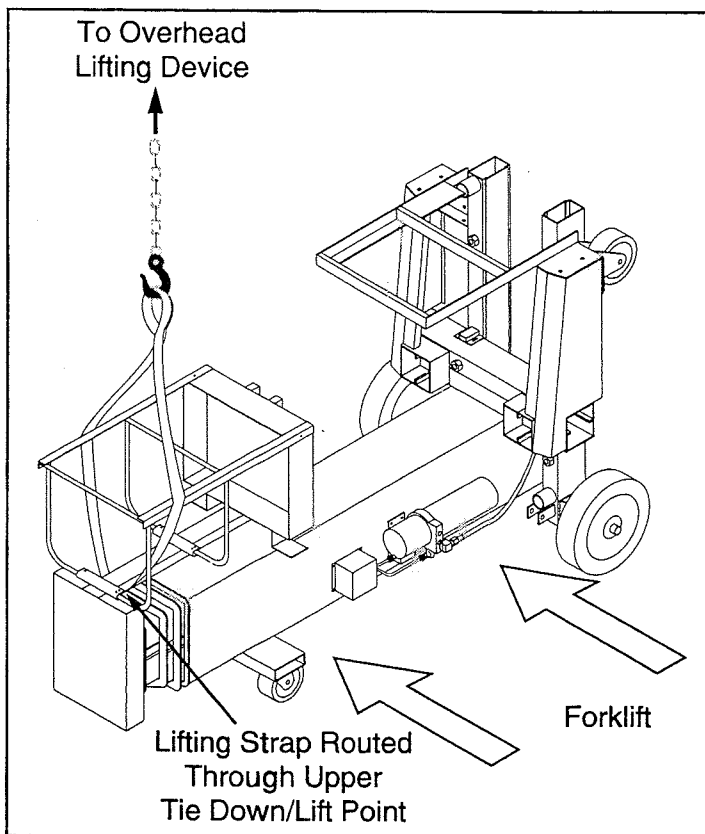

Figure 2-1: Lifting UL Lifts
5. Using a forklift raise the machine up far enough to remove the base of the crate (Figure 2-1). Lower the machine.
2. Disconnect the battery negative (-) lead from the battery terminal (Figure 2-1).
2.3 Lifting Work Platform (Figure 2-1)